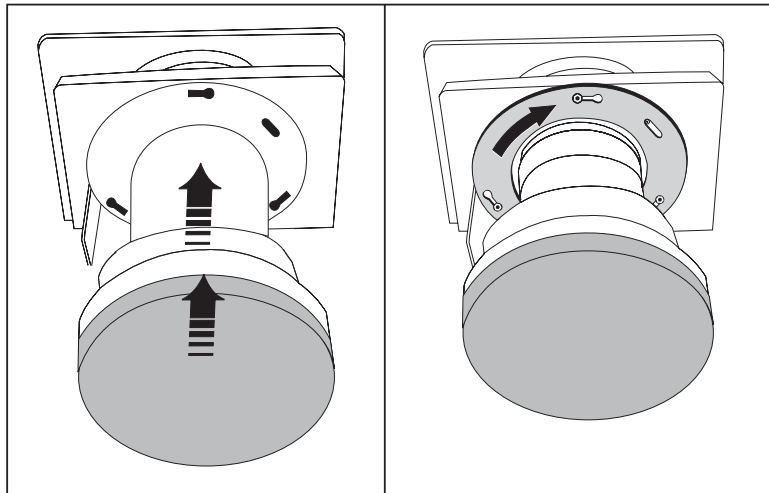

Figure 4.14. Insert Lens and Rotate (FIXED LENS SHOWN)
- **INSERT LENS:** The 3 slots on the lens flange align with the 3 lens mount screws—insert the lens so that screw heads slip through the **large** ends of the flange holes. See Figure 4.14.
- **ROTATE LENS:** Rotate the lens barrel clockwise until the screw heads lock into the **small** ends of the lens assembly slots. See Figure 4.14.